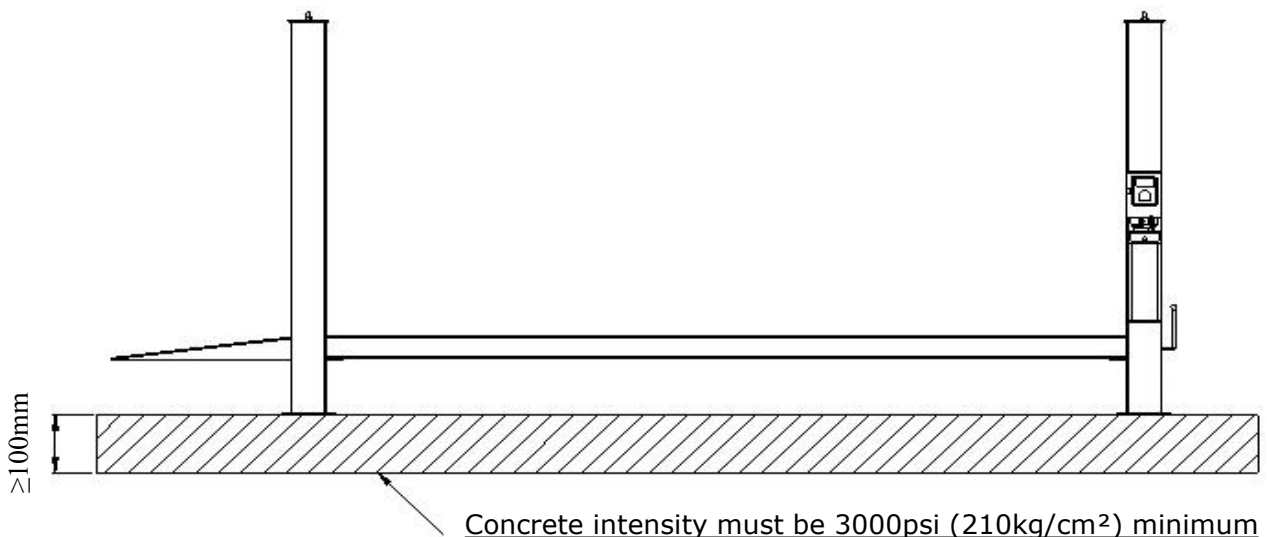

Fig. 4
D. SPECIFICATIONS OF CONCRETE (See Fig. 4)